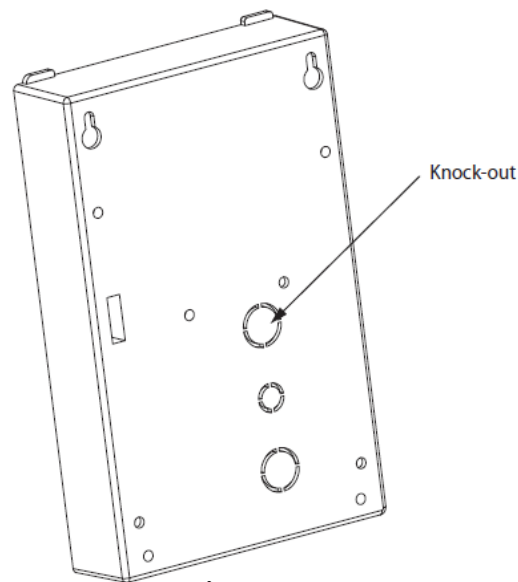

Figure 4B
4. Determine which enclosure base “knockout” to remove for CT and voltage leads. (See Figure 4B)